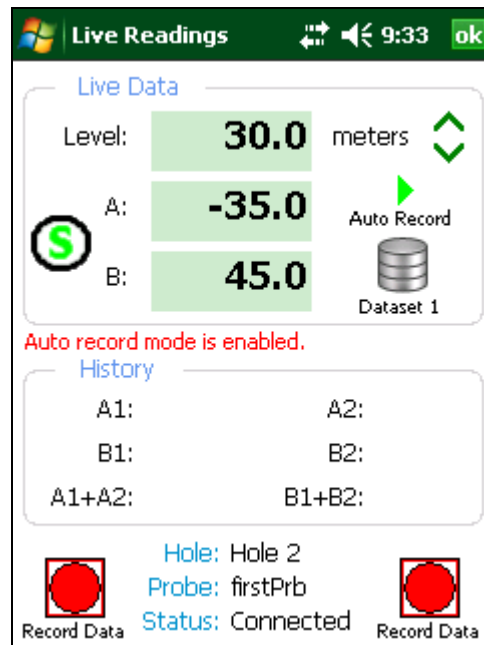

Figure 40 – Auto Record Enabled
| Visual / Audible | When this stability indication is selected, in addition to the icon described above, an audible indication is played indicating readings stability or instability (see Figures 40 and 41, as well as sections 3.3.6.3 and 3.3.6.4). |
If this selection is set to “Enable”, upon entry into the “Live Readings” screen, the “Auto Record” feature will be enabled (see Figure 40).
1. Tapping on the “Live Readings” menu item displays the screen shown in Figure 40).